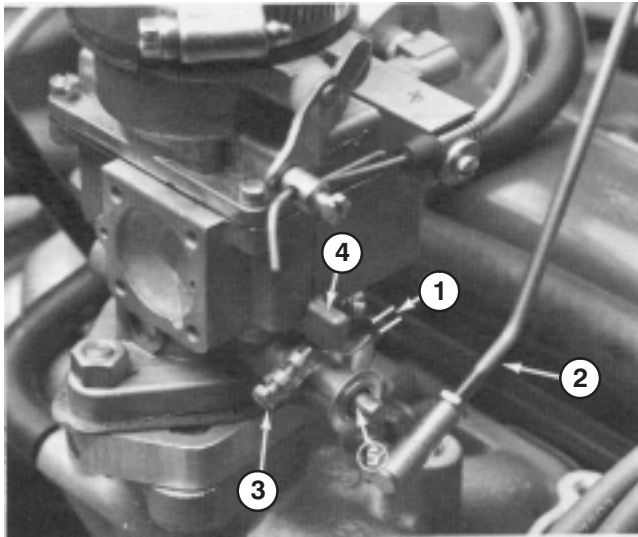

Figure 35
1. With engine shut off, move throttle control to FAST position and open hood. Check between the throttle arm and the stop on the carburetor base to make sure there is 1/32" (0.8 mm) gap (Fig. 35). If gap is not correct, adjust throttle rod (Fig. 35) by turning ball joint ends until gap is 1/32" (0.8 mm). If gap is correct, proceed to step 2.
3. Rotate throttle arm closed until it contacts stop (Fig. 35).
5. Release throttle arm, loosen jam nut on governor low idle speed screw and adjust it to attain 1500 ± 100 rpm (Fig. 35).